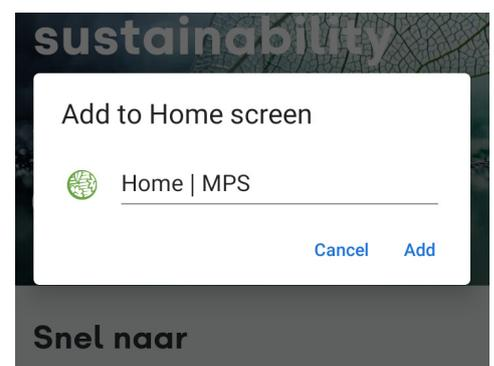

Figure 4
5. You can give the app a name if you wish, such as 'MPS records' (see figure 4).